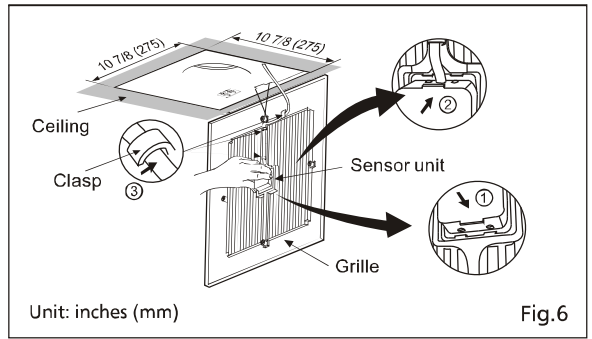

Fig.6
8. Insert the sensor unit into slot of the grille; Fix the lead wire of sensor unit into the clasps (3 positions). (FV-13VKM3 and FV-08VKM3). (Fig.6)